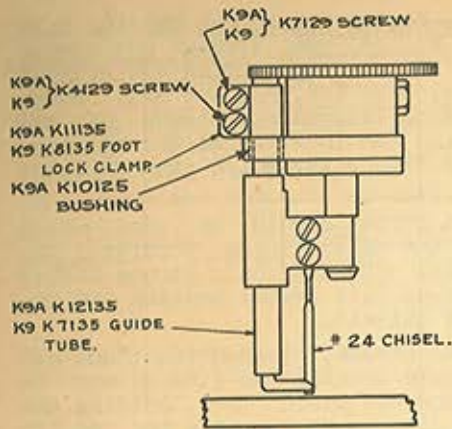

Figure 1
A4--CHISEL GUIDE. The chisel guide, which is illustrated in figure 1 supports the chisel just above the work and directs it so that each cut follows the path begun by its predecessors.
2. Adjust the clearance (see paragraph A6 for directions) so that at the top of the stroke the cutting edge of the chisel is very slightly below the bottom of the guide foot. See figure 1. Follow these instructions exactly and the K9 and K9A Cutawl always will cut well.
If a chisel guide becomes worn, it is easily replaced by installing a K12135 (K7135) guide tube and chisel guide combination. (See figures 1 and 2). This is done by loosening the K4129 and K7129 (K4129) screws in the K11135 (K8135) clamp, pulling out the K12135 (K7135) guide tube and substituting a new one for it.
3. Before tightening the K4129 and K7129 (K4129) screws (see figures 1 and 2), which lock the guide tube in place, make certain that the guide foot is EXACTLY IN LINE with the chisel block. This is done as follows:
- (b) Slip the K13135 (K9135) foot latch into the slot in the swivel so that it is in the position shown in figure 1.
With all chisels except the Nos. 5, 7, 11 and 22, adjust the clearance so that the cutting edge of the chisel at the top of the stroke IS JUST BELOW THE BOTTOM OF THE CHISEL GUIDE, as shown in figure 1.